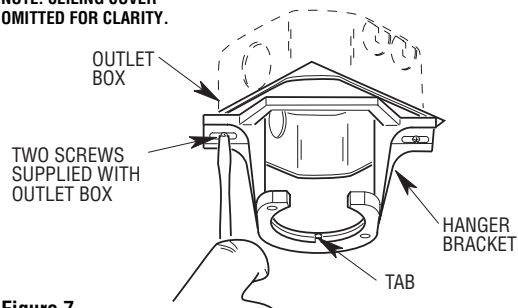
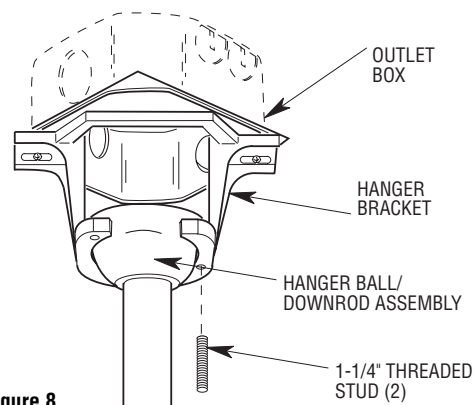

Figure 7
Figure 8
1. With the branch circuit electricity turned off at the breaker panel or fuse box, securely attach the hanger bracket to the outlet box using the two screws supplied with the outlet box. (Figure 7.)
2. Carefully lift the fan and seat the hanger ball/downrod assembly onto the hanger bracket that was just attached to the outlet box (Figure 7). Rotate the entire fan assembly until the ball groove engages the anti-rotation tab. Be sure the groove in the ball engaged the anti-rotation tab on the hanger bracket (Figure 8).